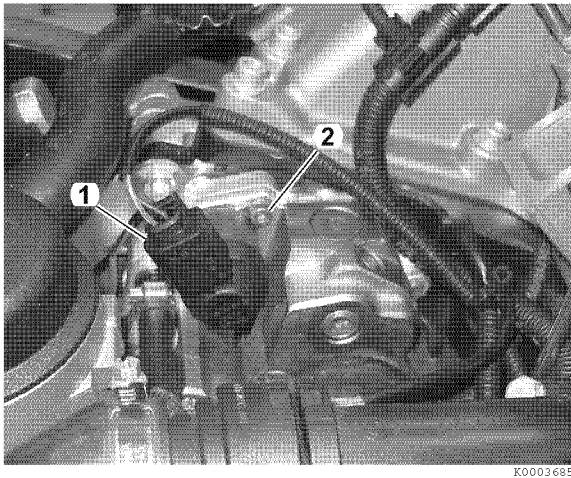

Figure 12-35
5. Disconnect electrical connector (1, **Figure 12-35**).
6. Remove three screws (2, **Figure 12-35**).